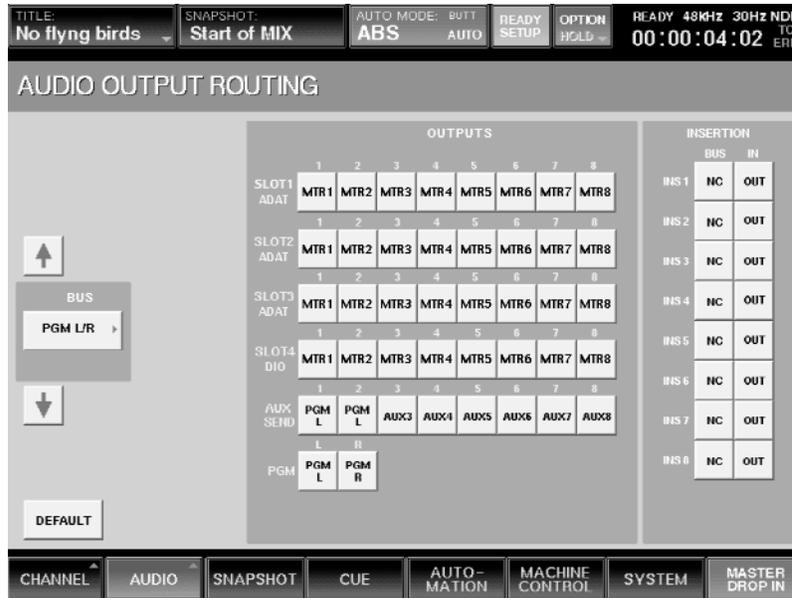

Figure 23
- To route that bus to Aux Send 2 as well, simply press the Aux Send 2 button. The left PGM bus output will now appear at both the Aux 1 and Aux 2 send output connectors. (See Figure 23)